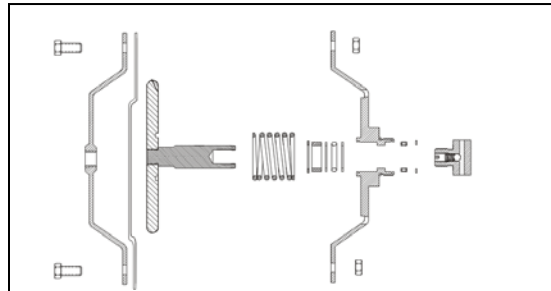

Figure 5
- 3.2.13 Separate the two halves and examine the diaphragm (Part 1) (also see Figure 5). If the diaphragm is leaking or is cracked, it will need replacement.